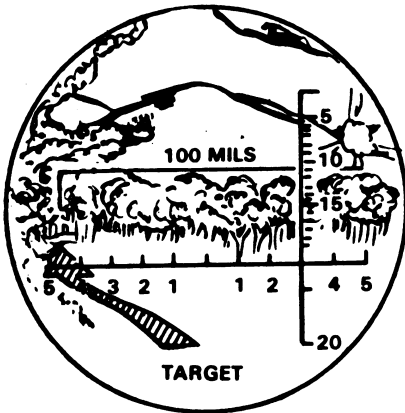

Figure 2
(a) Measure the horizontal angle in mils, using either fingers or the reticle pattern in the binoculars (see figs. 2 and 3). Estimate the range to the target and divide by 1,000. This is the OT factor. If the OT distance is 1,000 meters or greater, the OT factor is expressed to the nearest whole number. If the OT distance is less than 1,000 meters, the OT factor is expressed to nearest 1/10th; e.g., 800 = .8. Multiplying the OT factor by the deviation measured in mils produces deviation in meters.
(b) For example, in figure 2 we measure the round 100 mils right of the target. Estimating the range to be 2,200 meters, the OT factor is 2.2. For adjustment purposes, we express the OT factor to the nearest whole number. Example: 1.1 would be 1; 1.8 would be 2; 2.5 would be 3. Multiplying the angle (100 mils) by the OT factor (2), we get the deviation in meters (200 meters right).